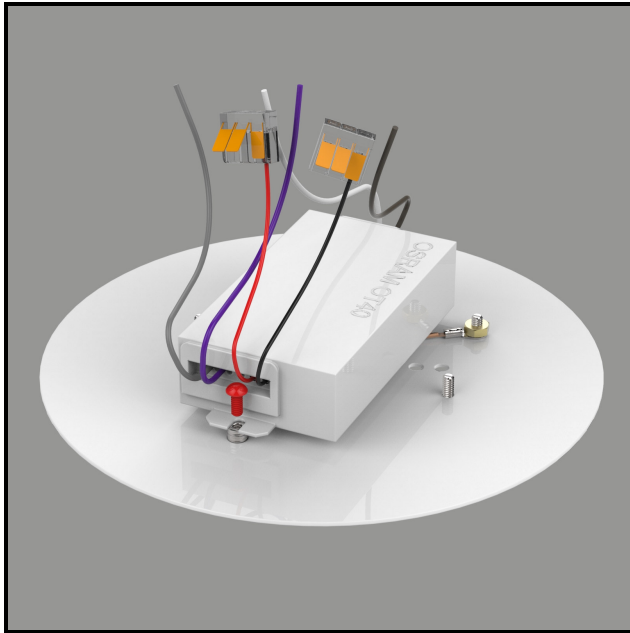

Figure 3
- With a screwdriver, remove the two screws holding the power driver in place. (Figure 3)